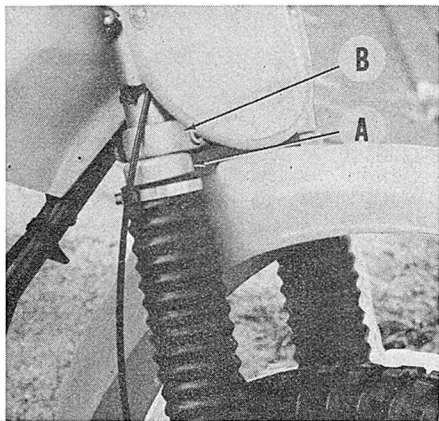

Fig. MA3—Front fork springs should be renewed if fork spring guide (A) falls away from triple clamp (B) when front of motorcycle is lifted.
**SUSPENSION.** Front suspension units should be drained and flushed with solvent after every four races. Fork assemblies contain approximately 200-250 cc of oil each. Viscosity of oil used will vary with rider preference but will usually be from SAE 10 to SAE 40 motor oil. Renew front fork inner springs if top fork spring guide (A—Fig. MA3) falls away from bottom triple clamp (B) when front of motorcycle is lifted.